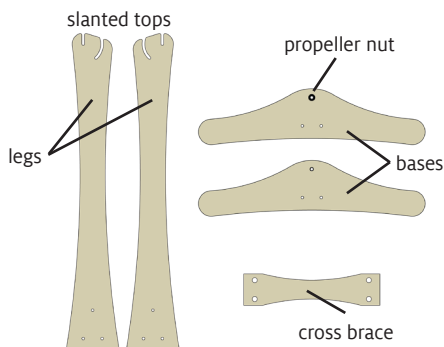

FIGURE 3: CRICKET STAND PARTS
1. Identify the wood parts of the stand shown in Figure 3.